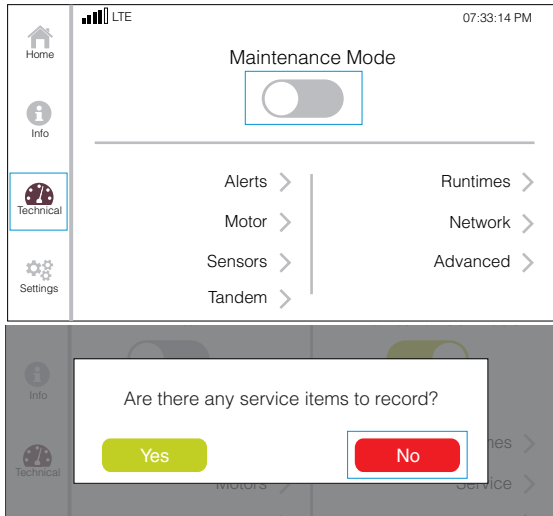

FIGURE 74. DISABLE MAINTENANCE MODE
12. On the Technical screen, press and disable **MAINTENANCE MODE**. Press **NO** on the pop-up dialogue box (FIGURE 74).